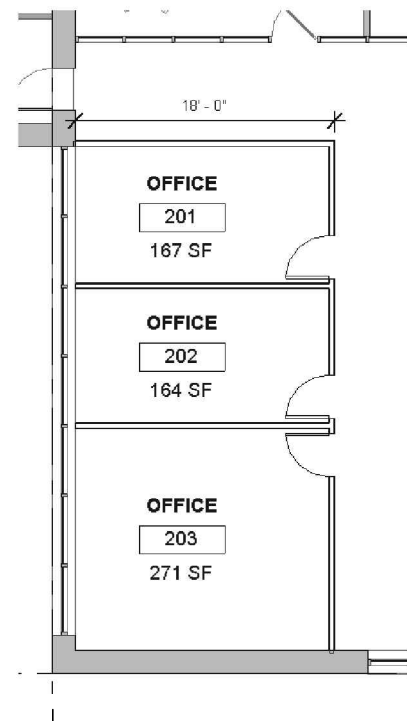

FIGURE 17-3.16 Rooms added, Level 2 – New floor plan view
44. Add three **Rooms** to the **Level 2 – New** floor plan as shown in Figure 17-3.16.